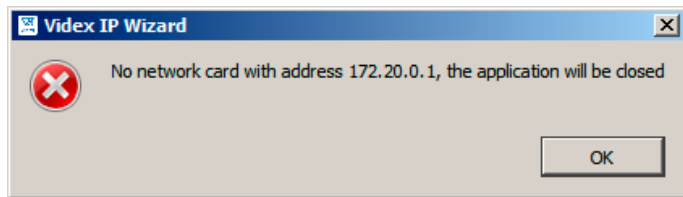

Fig. 39 No network card with address 172.20.0.1...
- If you receive the message as shown in Fig. 39 it means you must setup the network card first, please follow the directions on page 32 to properly set the network card.